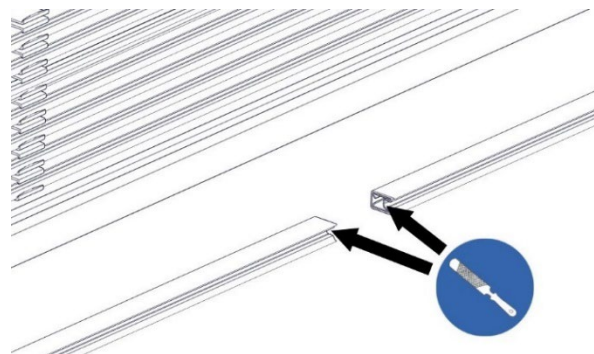

Fig. 95: Deburr rail ends
- Deburr the rail ends and clean any contaminants (shavings, etc.) (see Fig. 95).